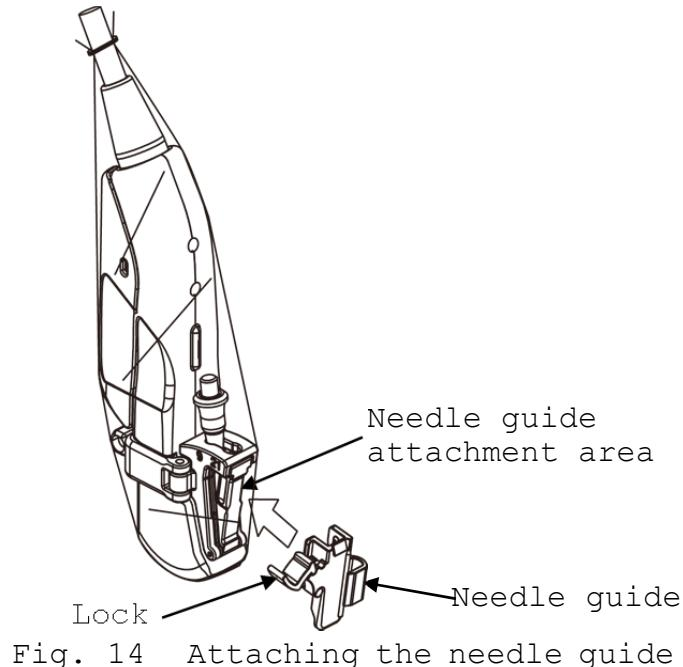

Fig. 14 Attaching the needle guide
- 1) Attach the unlocked needle guide onto the needle guide attachment area of the bracket. (See Fig. 14)